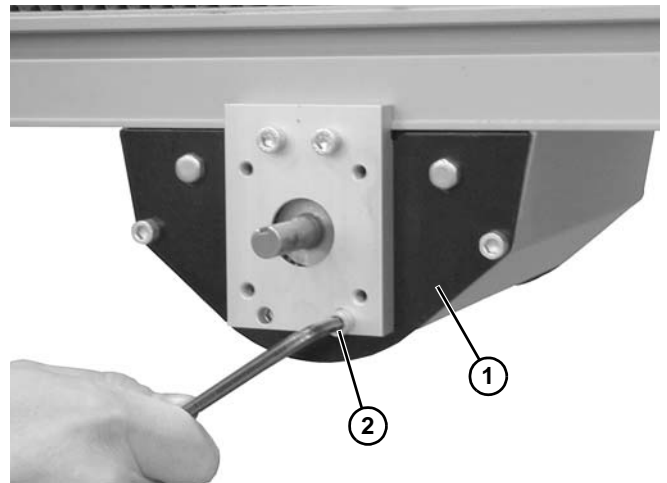

Figure 91
10. Secure mid drive assembly (**Figure 91, item 1**) with screw (**Figure 91, item 2**) on each side of assembly. Tighten screw to 7 Nm.